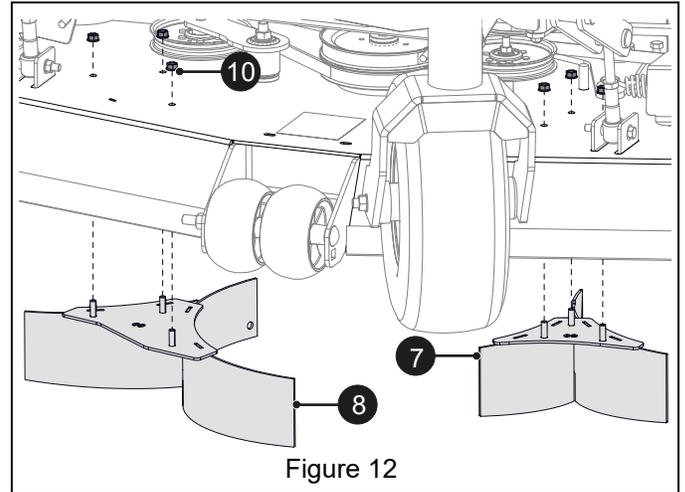

Figure 12
1. Position left baffle (item 7) and right baffle (item 8) in mower deck and retain with six 5/16" center locking flange nuts (item 10). Torque nuts to 9.1 N•m – 10.2 N•m (80 lb-in – 90 lb-in). See Figure 12.